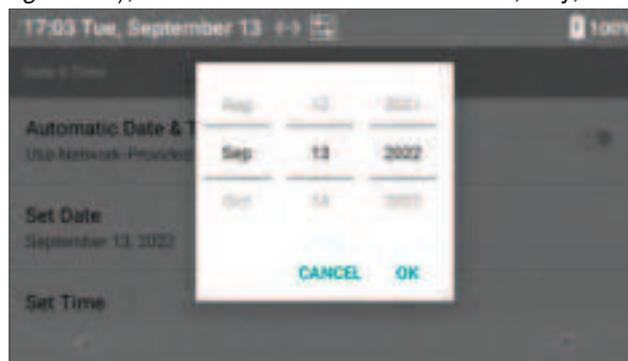

Figure 24: Set Date
- 4 In the dialog box (Figure 24), scroll the values for the month, day, and year.